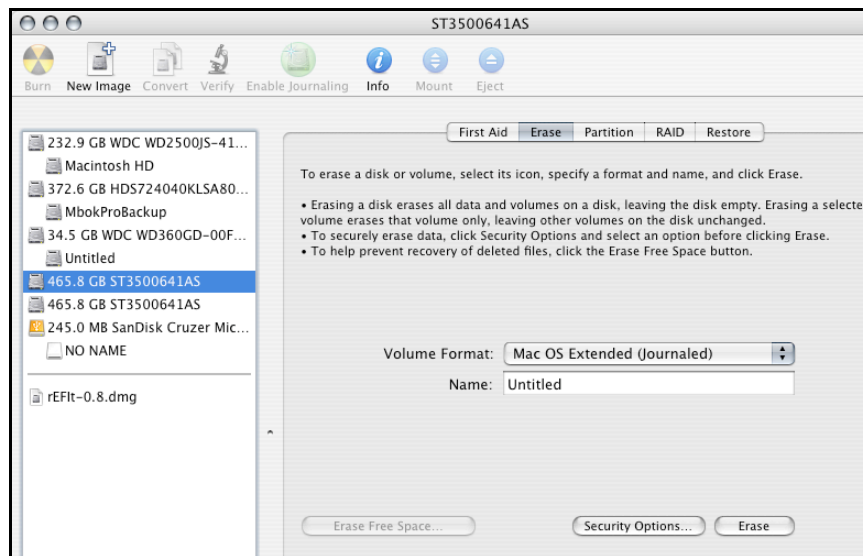

Figure 8: Selecting the *Erase* tab in Apple's *Disk Utility*
3. After carefully selecting the hard drive you wish to format, select the *Erase* tab in Apple's *Disk Utility* (see Figure 8).